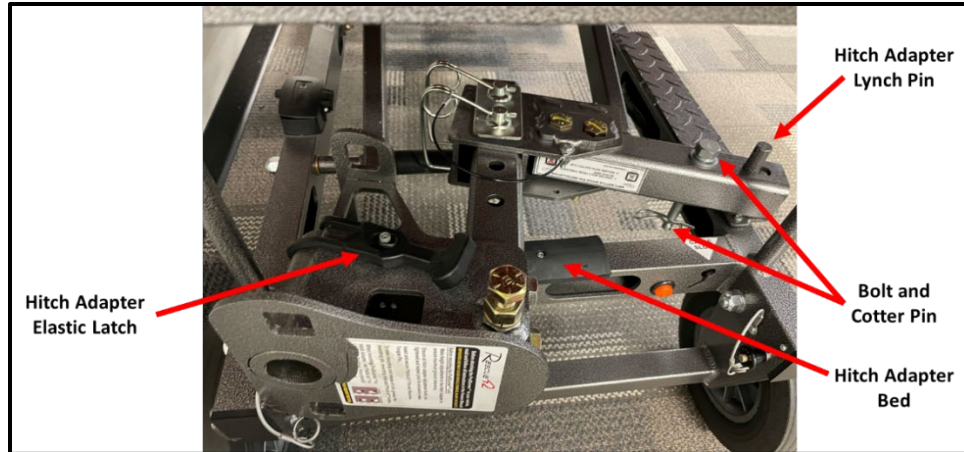

Figure 4. Hitch Adaptor
3. Reinstall the hitch adapter on the lower frame assembly. Refer to Figure 4. Verify that: